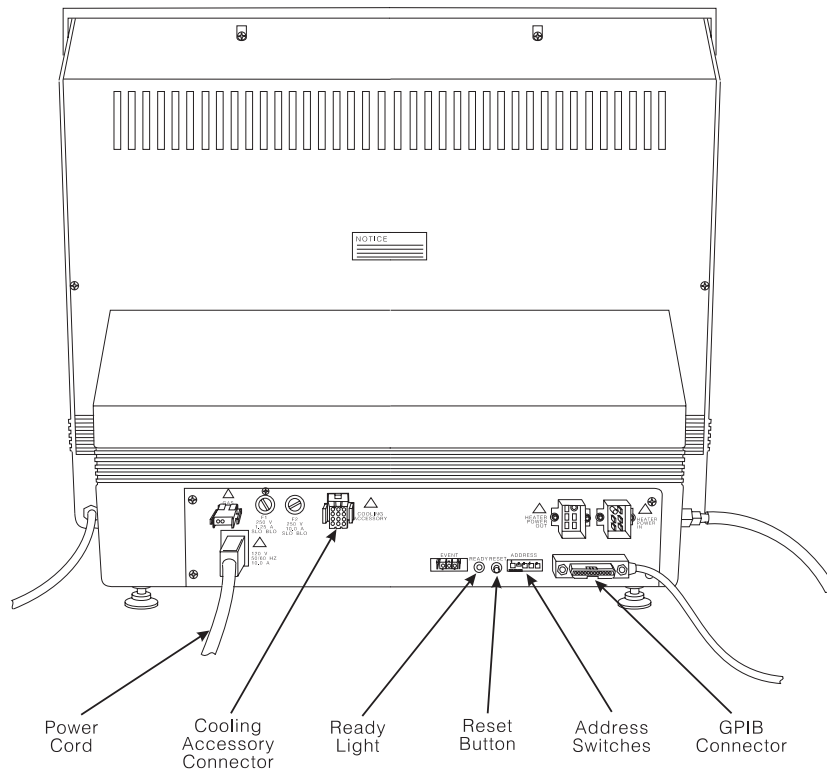

Figure 2.11
1. Locate the GPIB connector on the right rear of the instrument (see Figure 2.11).